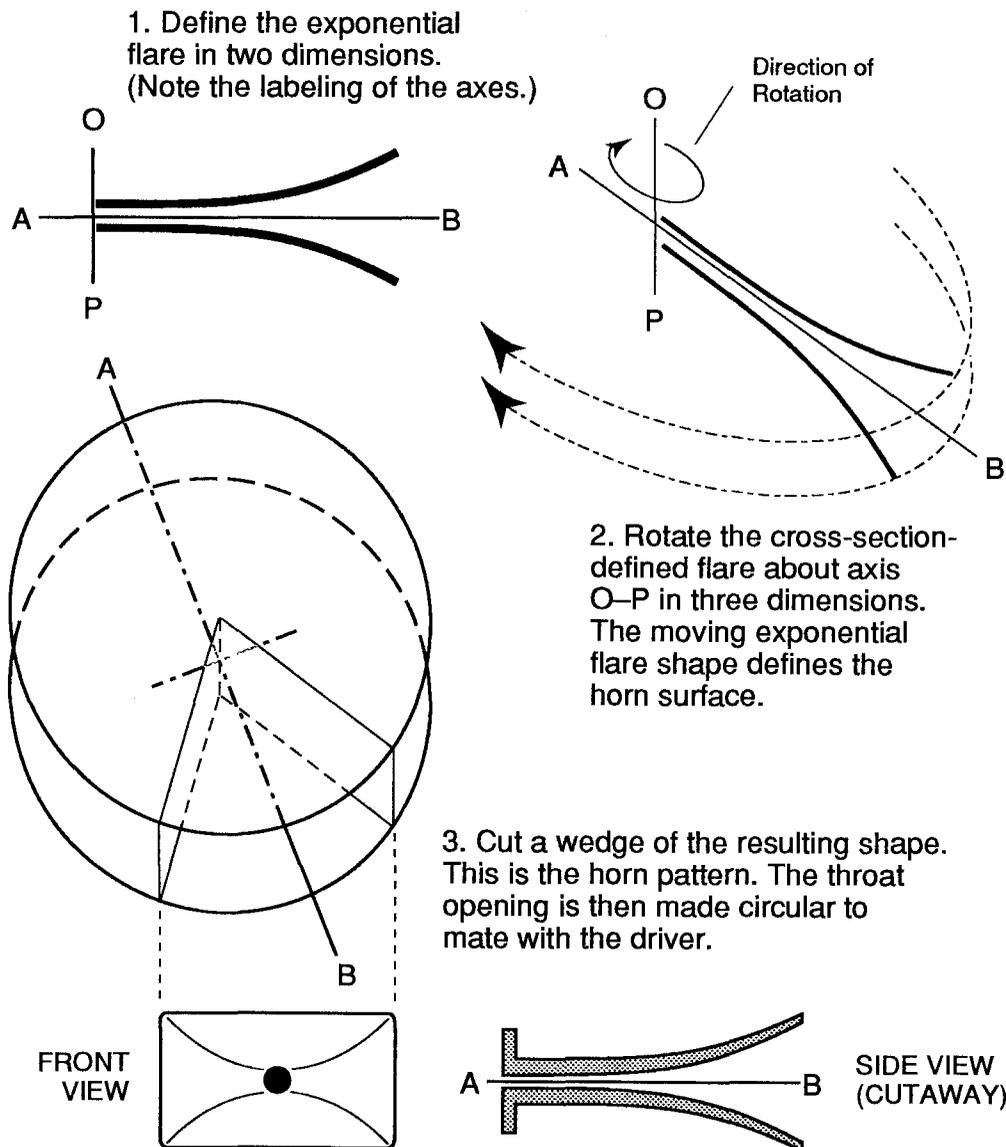

Figure 13-16. The design of an exponential radial horn
*Radial horns* are formed by defining a flare in two dimensions, then rotating that shape through a given arc around a central origin. The rotating shape defines the surface of the horn. Refer to Figure 13-16